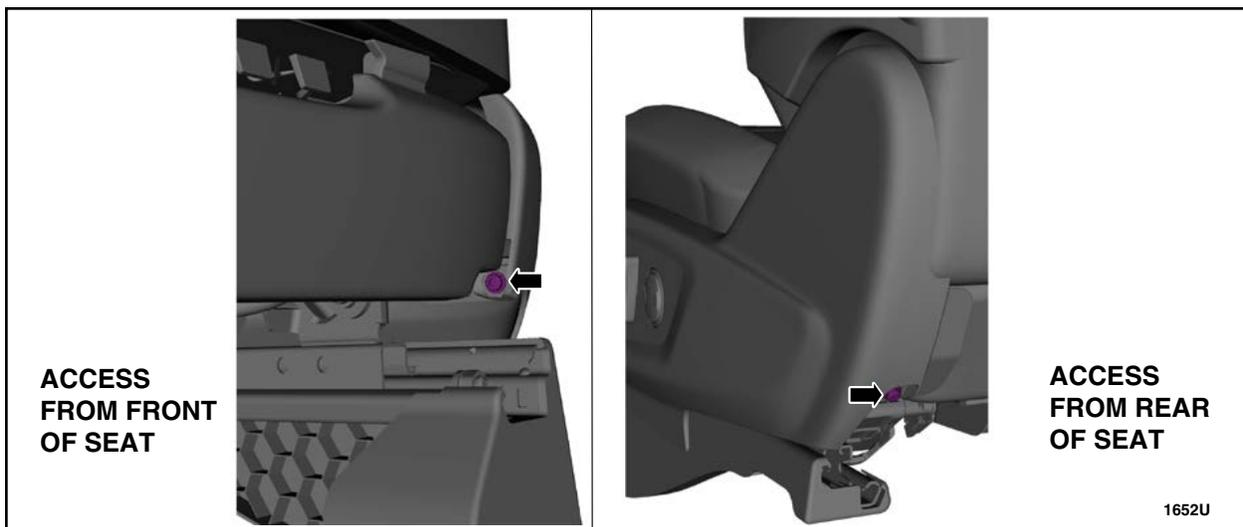

FIGURE 20
4. Remove the two side shield screws. See Figure 20.